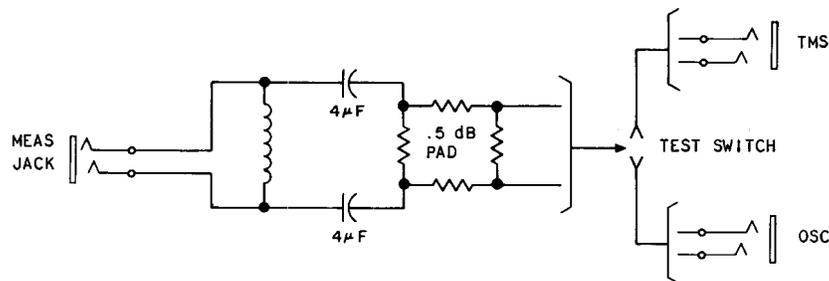
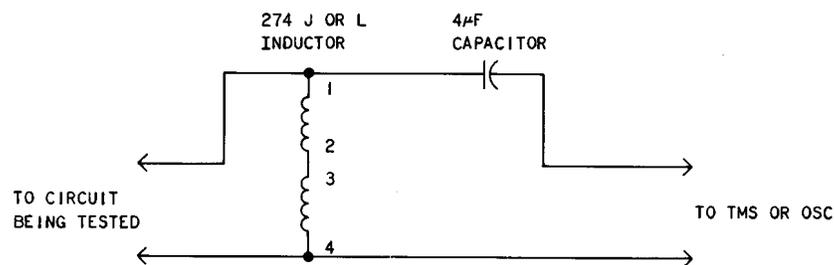

Fig. 4-1—2AB Set Used For DC Isolation
Fig. 4-2—Locally Prepared Holding Arrangement
4.07 Figure 4-1 shows the J94002AB (2AB) auxiliary transmission test set used to provide dc isolation. This is the recommended method, however, an alternate dc isolation arrangement can be developed locally as shown in Fig. 4-2. The loss in this arrangement at voice frequencies is negligible and no corrections are required.